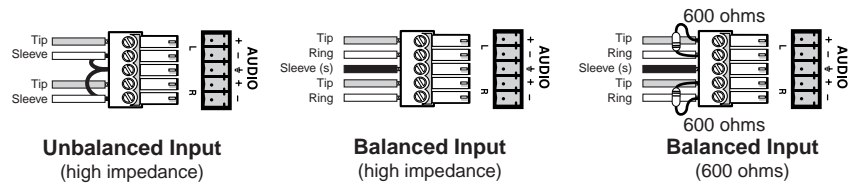
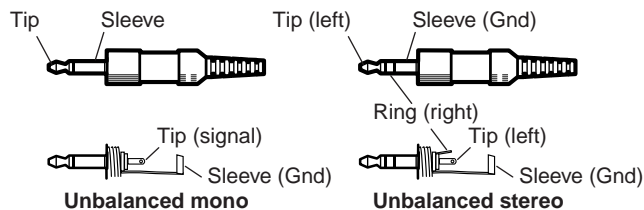

Figure 2-4 — Captive screw connector wiring for inputs
Figure 2-5 — Phono audio connectors
- ③ **Connections for balanced and unbalanced audio inputs** — Each input has a 3.5 mm, 5-pole captive screw connector for balanced or unbalanced stereo audio input. Connectors are included with each A/V switcher, but you must supply the audio cable. See figure 2-4 to wire a connector for the appropriate input type and impedance level. High impedance is generally over 800 ohms.
NOTE *When making connections from the switcher using existing audio cables, see figure 2-5. A mono audio connector consists of the tip and sleeve. A stereo audio connector consists of the tip, ring and sleeve. The ring, tip, and sleeve wires are also shown on the captive screw audio connector diagrams, figure 2-4 and figure 2-6.*